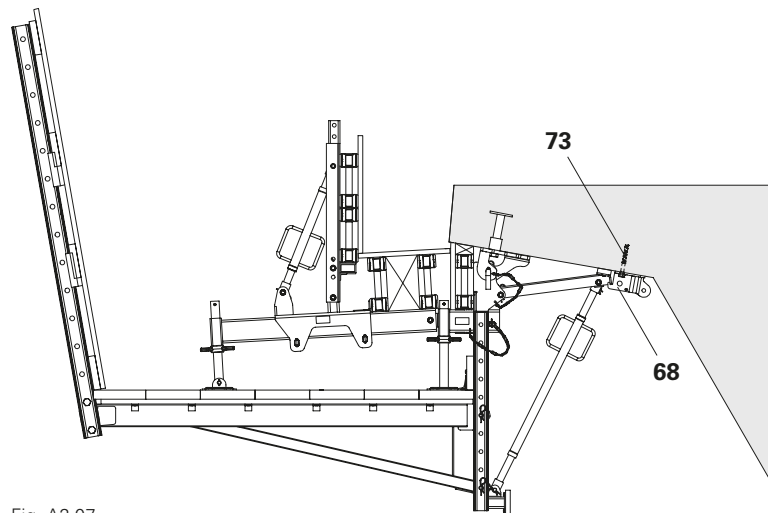

Fig. A2.07
- No ballasting is required when mounting with Bracing Shoe VGK (68). (Fig. A2.07)
- Affix Bracing Shoe VGK (68) with tie bolt Ø13/20x130 mm (73).